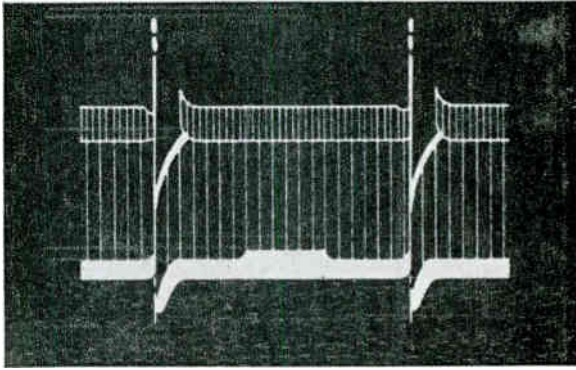

Fig. 139-6.
*Fig. 139-6:* Taken at the plate of the third tube in the sync section, which is operated as a clipper. Polarity has been inverted with respect to that of Fig. 139-5. Vertical sync pulse voltage peaks have become very pronounced. This is the signal which goes to the integrating filter located between the sync clipper and the input for the vertical sweep oscillator.